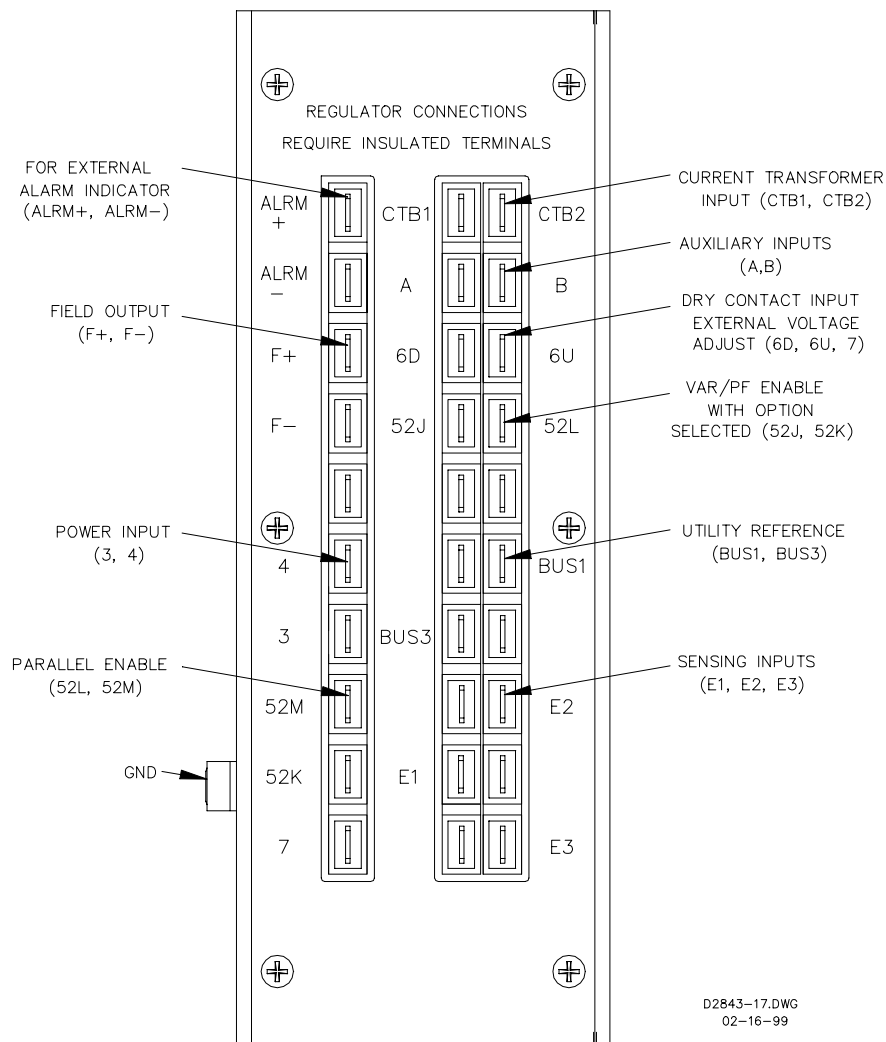

Figure 3-7. DECS Terminal Connections, Rear View
Connect the DECS as shown in Figures 3-7 through 3-11 and in accordance with the following paragraphs.
If a Remote Voltage Adjust is required, a single-pole, double-throw, spring-return, center-off, switch rated for 240 Vac, 1 ampere is recommended. To connect this switch, the center pole, or common terminal, must be connected to DECS terminal 7. The other two (2) poles or terminals are connected to DECS terminals 6U and 6D. (Refer to Figure 3-7 for terminal locations.) Shorting terminal 6U to 7 causes the DECS to raise the mode of operation setpoint i.e., voltage, manual VARs, or P.F. Similarly, shorting 6D to 7 causes the setpoint to be lowered. Care must be taken because input power voltage is present across terminals 6U, 6D, and 7. This connection can be made using any wire gauge from 12 to 22 (0.3 to 2.5 m²). The Remote Voltage Adjust switch can be mounted up to 150 feet from the DECS when using twisted, shielded cable.
(Figures 3-7 through 3-11), switch S3, when closed, provides the voltage matching input. Switch S3 should be open to disable voltage matching after the generator is paralleled.
In order to ensure that the DECS is CE compliant, shielded cable, with the shield grounded to the DECS, must be used on the following terminals: VAR/PF Control (52J and 52K), Paralleling Control (52L and 52M), External Adjust 6D,7, and 6U), Alarm (Alm+ and Alm-), and the Auxiliary Adjust (A and B). There are ground terminals on the back of the DECS where the shield for each cable should be attached. Refer to Figure 3-7 for the terminal locations. The shielded cables should be kept as short as possible. Shielded cables should have an insulation rating of no less than 600V.